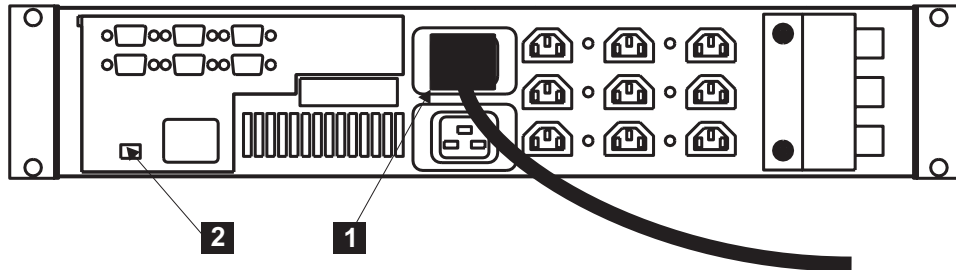

Figure 122. Installing the uninterruptible power supply power cable
9. At the back of the uninterruptible power supply, plug the uninterruptible power supply main power cable into the power socket, **1** in Figure 122 on page 206.